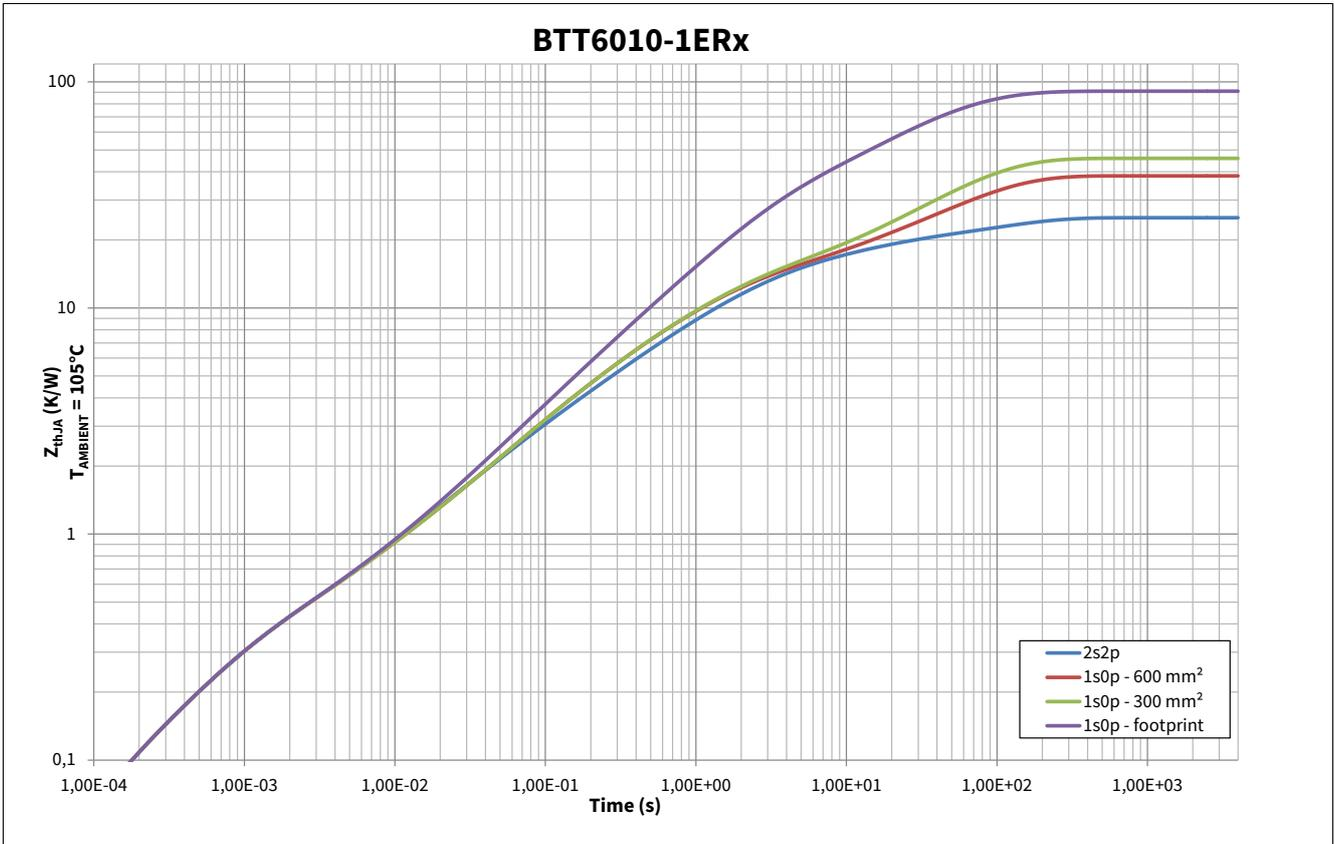

**Figure 4 2s2p PCB Cross Section**
- 2) Specified  $R_{thJA}$  value is according to JEDEC JESD51-2,-5,-7 at natural convection on FR4 2s2p board with 1 W total power dissipation at  $T_A=105^{\circ}C$  ; The product (chip + package) was simulated on a 76.4 x 114.3 x 1.5 mm board with 2 inner copper layers (2 x 70  $\mu m$  Cu, 2 x 35  $\mu m$  Cu). Where applicable, a thermal via array under the exposed pad contacts the first inner copper layer. Please refer to Figure 4.